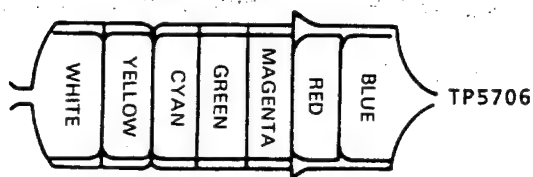

Figure 2-17.
3. Observe the output of TP5706 with an oscilloscope, and adjust T5703 so that the chroma signal becomes flat as shown in Fig. 2-17.